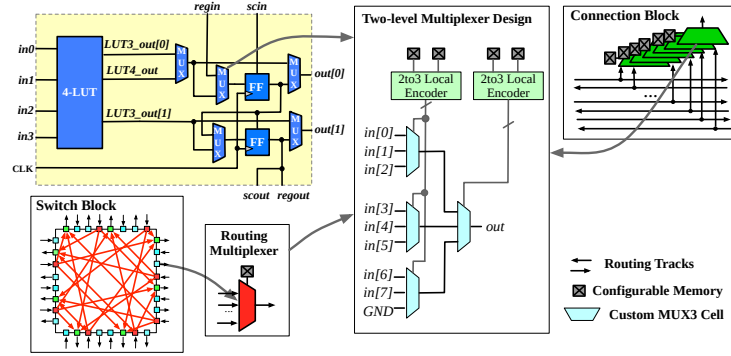

Fig. 5.1: Schematic of multiplexer design in SOFA CHD FPGA
Routing multiplexer are designed by using a few custom cells based on the Skywater *High-Density* (HD) PDK, as shown in Fig. 5.1. The multiplexer design follows a two-level structure, which is applied to all the routing multiplexers in logic elements, connection blocks and switch blocks across the FPGA fabric.